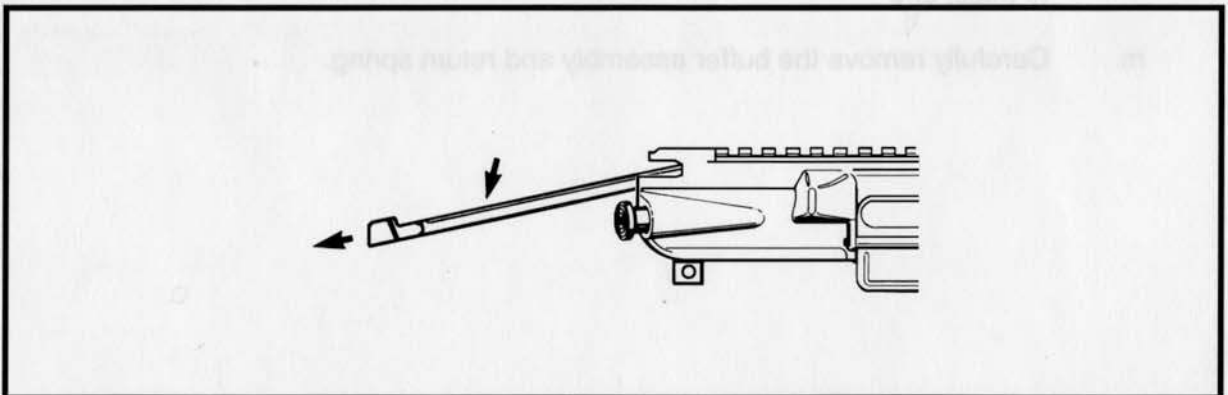

Figure 3-2-6 Removing the Cocking Handle
- e. Remove the cocking handle by pulling it rearward until its guide lugs drop down out of the guideway. See Figure 3-2-6;